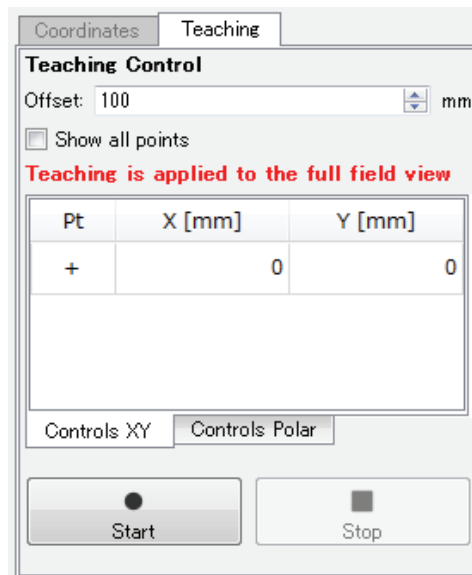

Figure 7-47 Teaching setting
- Click the "Start" button (Figure 7-47) to start recording the background data. Recording will continue until the stop button is clicked. Further, to use all sensor measurement points for the teaching function, check the [Show all points] and press [Start] button.